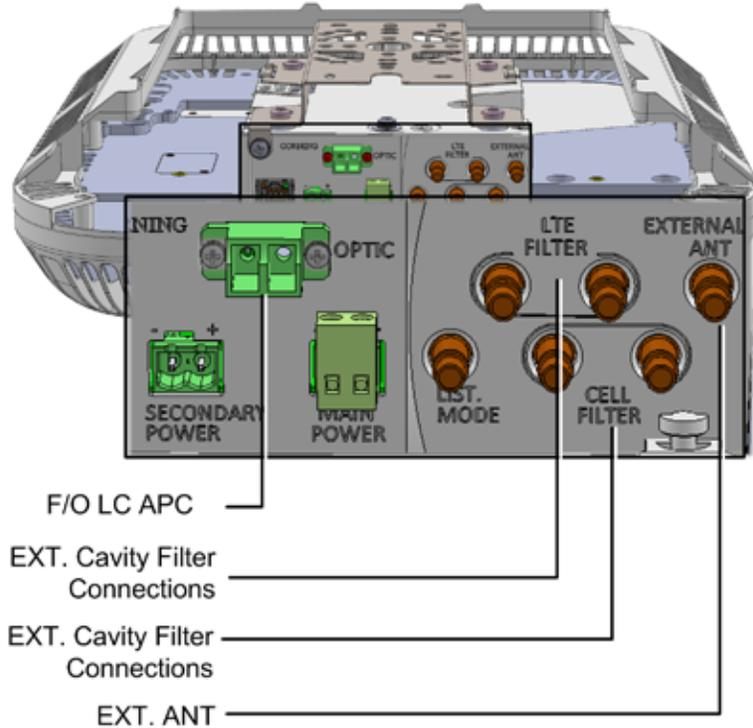

Figure 5-65. RAU Front Panel Connections
6. Connect optic fiber pair to RAU module LC APC connector. See Figure 5-65.